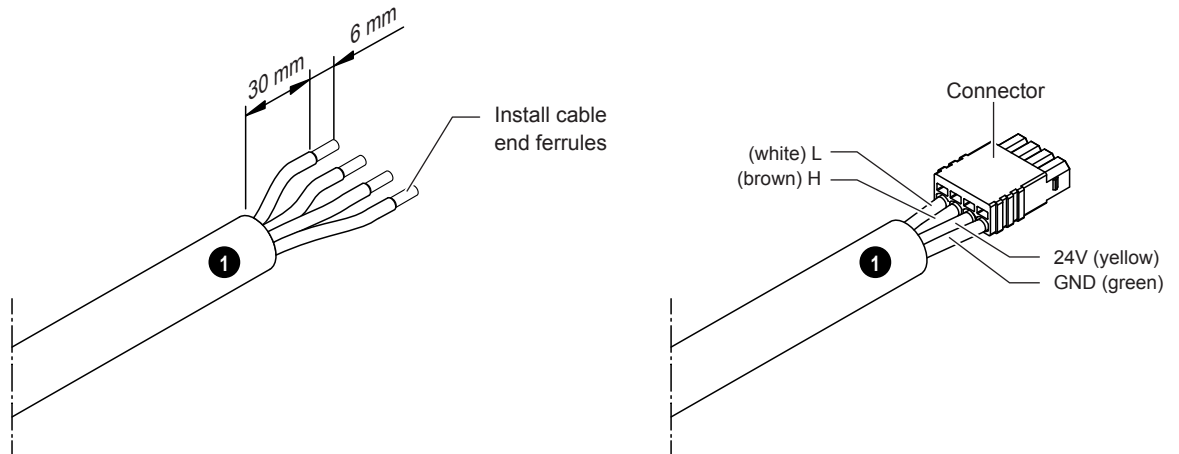
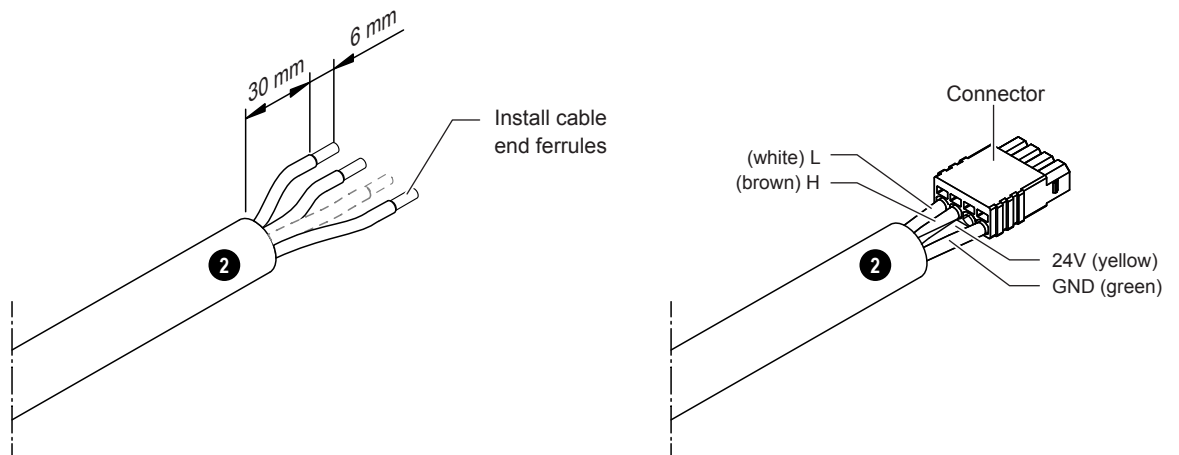

Fig. 26: Prepare CAN BUS cable for SPA Display connection
Fig. 27: Prepare CAN BUS cable for the connection between Condair Delta SPA Control Box and Condair Omega
3. Cut the CAN BUS cable(s) to length. Prepare the cable end(s) as shown in Fig. 26 (SPA Display connection) or Fig. 27 (connection cable Condair Delta SPA Control Box to Condair Omega), then connect the prepared cable ends to the the CAN BUS connectors.